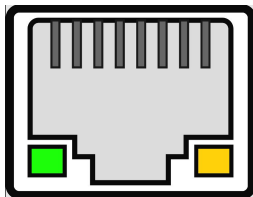

Fig. 20
2. Connect the cable to the ethernet ports on both devices(see Fig. 20).